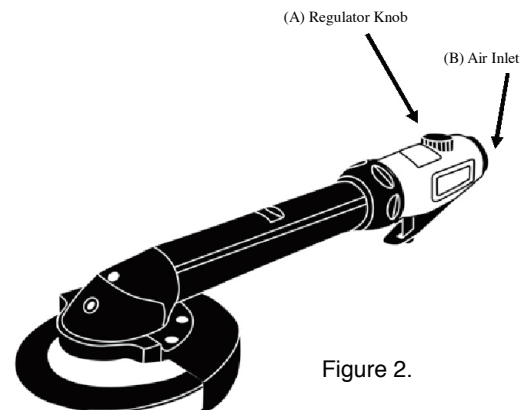

Figure 2.
Lubricate the air motor daily with a good grade of air motor oil. If no air line oil is used run a teaspoon of oil through the tool. The oil can be squirted into the tool air inlet (B) Figure 2. or into the hose at the nearest connection to the air supply, then run the tool. A rust inhibitive oil available from auto supply stores etc. is acceptable for air motor.